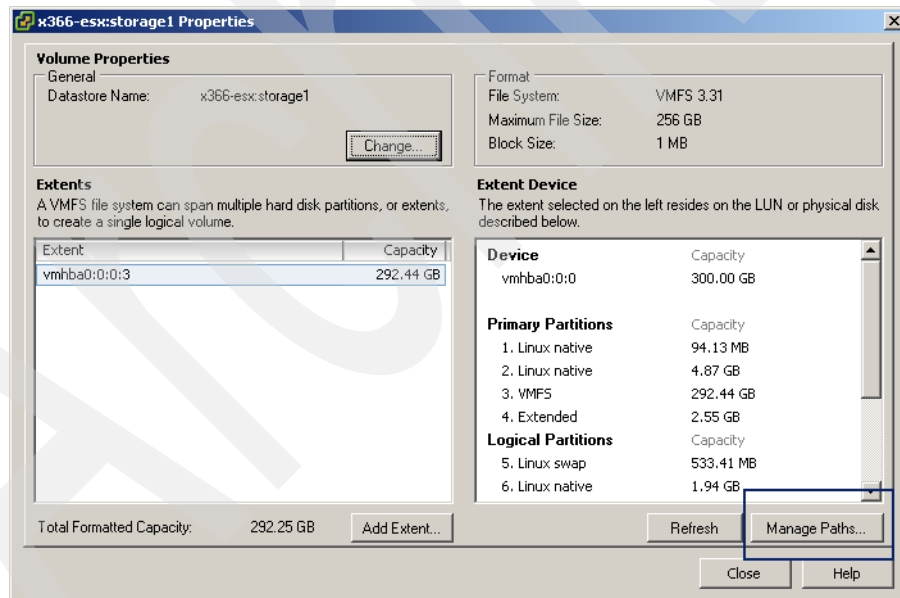

Figure 28-10 Open Manage Paths window
5. Click **Manage Paths** (Figure 28-10).